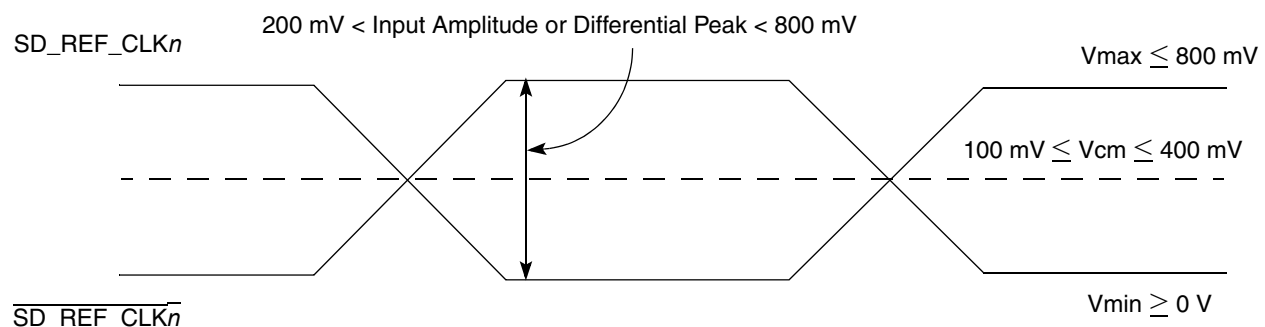

Figure 38. Differential Reference Clock Input DC Requirements (External DC-Coupled)
- For an external DC-coupled connection, as described in Section 2.20.2.1, “SerDes Reference Clock Receiver Characteristics,” the maximum average current requirements sets the requirement for average voltage (common mode voltage) as between 100 mV and 400 mV. Figure 38 shows the SerDes reference clock input requirement for DC-coupled connection scheme.